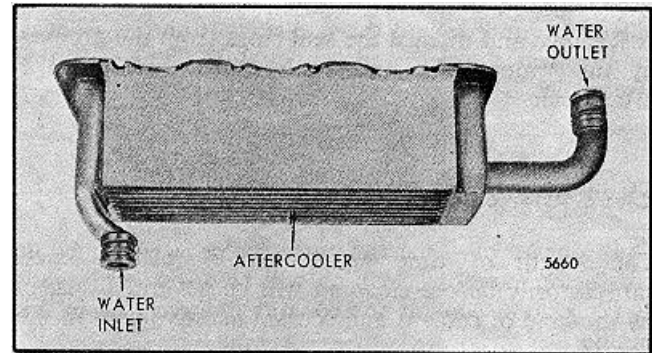
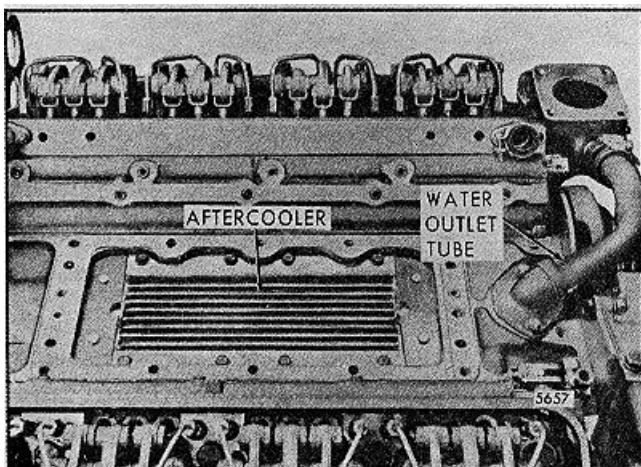

FIG. 2 - Aftercooler
FIG. 1 - Aftercooler Mounted in Cylinder Block
The aftercooler mounts in the cylinder block opening between the cylinders, beneath the blower assembly (Fig. 1). The aftercooler (Fig. 2) cools the air going into the engine after it passes through both the turbocharger and the blower. The air flows downward through the aftercooler and the coolant flows from rear to front through the aftercooler and returns through the left-bank thermostat housing.
6. Remove and discard the 5/16 " -18 x 9/16 " attaching bolts with nylon locking patch and lift the aftercooler from the cylinder block opening between the cylinders. *Do not remove the four bolts in the top face of the aftercooler (Fig. 1). They are part of the aftercooler assembly and need not be removed for any reason.*